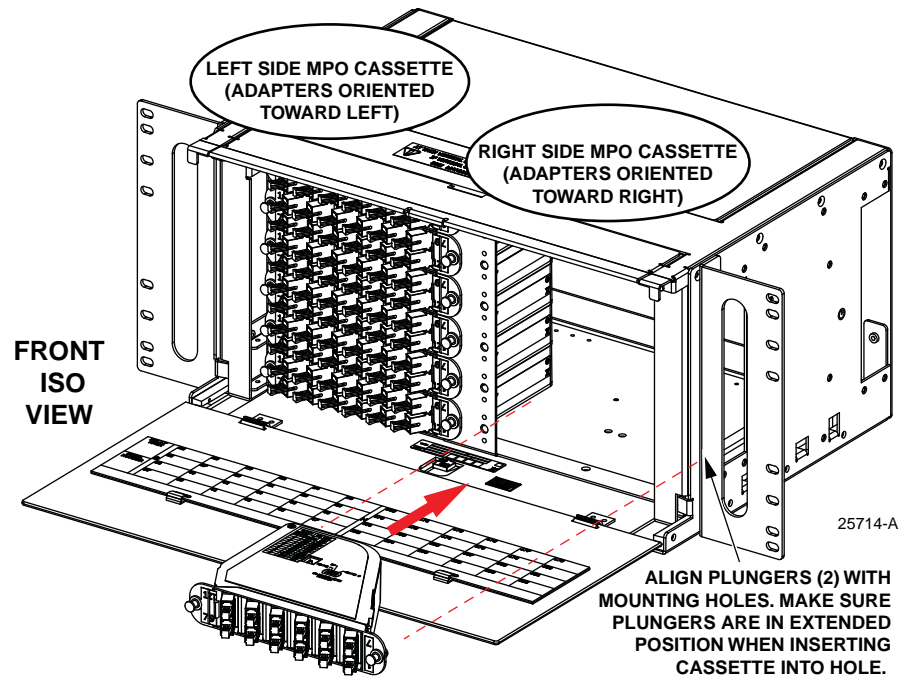

Figure 11. Installing MPO Cassettes (5RU Panel Front View)
3. Install the MPO cassettes in the orientation shown in Figure 11. Note that the cassettes installed on the left side of the panel are angled toward the left, cassettes on the right side are angled towards the right.